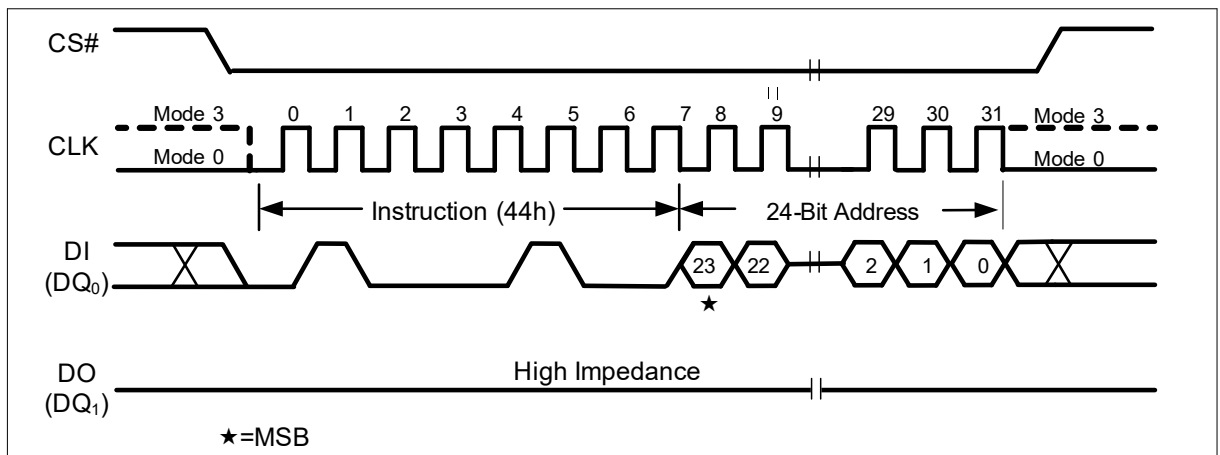

Figure 58 Erase Security Sector Instruction (SPI Mode only)
The Erase Security Sector instruction sequence is shown in Figure 58. The CS# pin must be driven high after the eighth bit of the last byte has been latched. If this is not done the instruction will not be executed. After CS# is driven high, the self-timed Erase Security Sector operation will commence for a time duration of t_{SE} (See “12.6 AC Electrical Characteristics”). While the Erase Security Sector cycle is in progress, the Read Status Register instruction may still be accessed for checking the status of the WIP bit. The WIP bit is a 1 during the erase cycle and becomes a 0 when the cycle is finished and the device is ready to accept other instructions again. After the Erase Security Sector cycle has finished the Write Enable Latch (WEL) bit in the Status Register is cleared to 0. The Security Sector Lock Bit (LB) in the Status Register-2 can be used to OTP protect the Security Sectors. Once the LB bit is set to 1, the Security Sector will be permanently locked, Erase Security Sector instruction will be ignored.